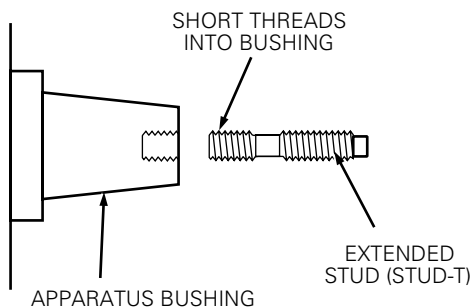

Figure 10. Line illustration of bushing stud installation
- Thread the shorter threaded end of the T-OP II stud into the apparatus bushing until hand tight. (Refer to Figure 10).